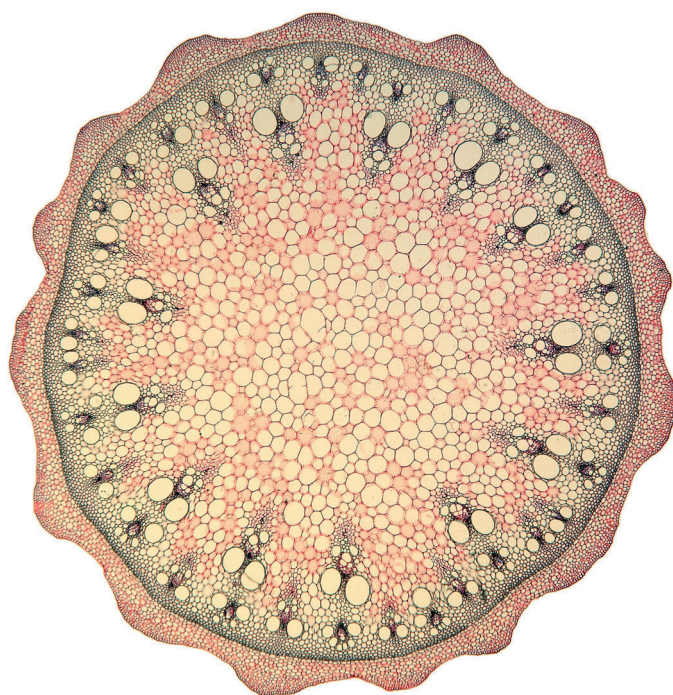

Fig. 2.2
- (b) Fig. 2.2 is a photomicrograph of a stained transverse section through a stem of a different plant species.
Observe the stem on **L1** and the stem in Fig. 2.2.
Annotate Fig. 2.2 to describe **three** observable differences between the stem in Fig. 2.2 and the stem on **L1**:
- Next to each letter, describe how each feature on the stem in Fig. 2.2 differs from the stem on **L1**.